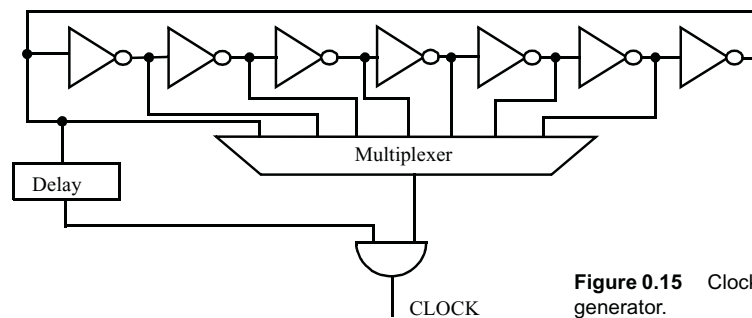

Figure 0.15 Clock duty-cycle generator.
14. An adjustable duty-cycle clock generator is shown in Figure 0.15. Assume the delay through the delay element matches the delay of the multiplexer.